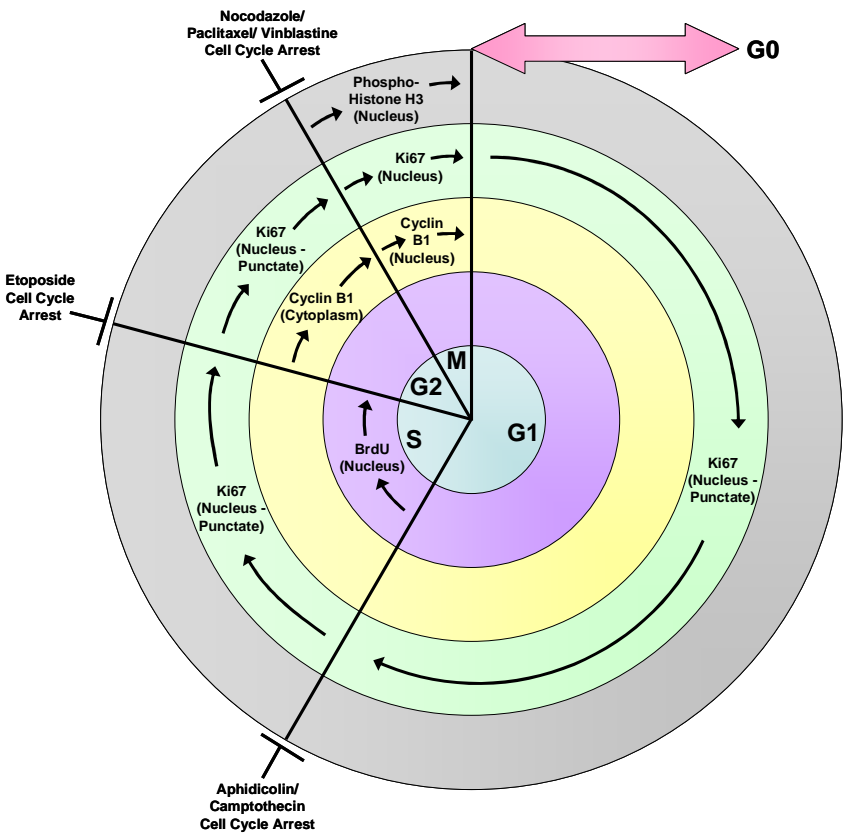

Figure 1. Eukaryotic cell cycle marker expression and effects of cell cycle phase blocking agents.
Histone H3 phosphorylation plays an important regulatory role in mitosis, transcriptional activation and neoplastic cell transformation [3, 4]. Several kinases, including MAP and Aurora kinases, have been reported to phosphorylate histone H3 at serine 10 following mitogenic stimulation or stress [4, 5]. Since mitosis is accompanied by phosphorylation of histone H3 on serine 10, the presence of phosphorylated histone H3^(Ser10) indicates that a cell is mitotic [4]. Upon exit from mitosis, a global dephosphorylation of histone H3 takes place. These phosphorylation and dephosphorylation events are well characterized and accordingly, phospho-histone H3 nuclear expression is widely used as a measure of mitotic index (the percentage of cells in M phase) in flow cytometry and HCS applications [5-9] (see Figure 1).
The superior Millipore reagents provided with this kit enable the user to reproducibly generate images with a high signal-to-background ratio, greatly facilitating HCS. In addition, working solutions of the primary and secondary antibodies are stable for at least 24 hours at room temperature (Figure 1), a great benefit for large-scale screening applications. The straightforward sample preparation and processing protocol takes less than 2.5 hrs after fixation.
Reagents are provided for 5 x 96-well microplates – *i.e.*, sufficient to perform 480 separate experiments. The kit includes a primary antibody for phospho-histone H3^(Ser10), a Cy3-conjugated secondary antibody, Hoechst HCS Nuclear Stain, HCS Fixation Solution, HCS Immunofluorescence Buffer, HCS Wash Buffer, and Plate Sealers. Two control compounds, the chemotherapeutic drugs vinblastine sulfate and etoposide, along with DMSO for Compound Serial Dilution and Compound Dilution Buffer, are also included in the kit, sufficient for duplicate 12-point dose response samples per plate (see Assay Procedure). Vinblastine sulfate, a microtubule inhibitor, and etoposide, a DNA topoisomerase II inhibitor, have both been demonstrated to induce mitotic block [10, 11], at G2/M phase and S/G2 phase, respectively. G2/M phase block causes an accumulation of phospho-histone H3^(Ser 10) expressing cells, while S/G2 phase block diminishes the proportion of cells reaching M phase (see Figure 1).
Note: Staining time is ~2.5 hours post-fixation. Do not allow wells to dry out between staining steps. Aspiration and dispensation of reagents should be conducted at low flow rates to diminish any cell loss due to fluid shear. All recommended 'per well' volumes refer to a single well of a 96-well microplate. All recommended 'per 96-well plate' volumes include 25% excess for liquid handling volume loss. All staining steps are performed at room temperature (RT). All buffers and antibody solutions are stable for at least 24 hours at RT if long-duration automated handling is required (see Figure 1).
4. At end of culture period, pre-warm HCS Fixation Solution (2X) to room temperature (RT) or 37°C if desired (12 mL/96-well plate). In a chemical fume hood, add 100 µL/well directly to culture media and allow to fix for 30 min at RT. Remove fixative and dispose of in compliance with regulations for hazardous waste (see MSDS). If proceeding immediately to staining, rinse each well twice with 200 µL of HCS Immunofluorescence Buffer. Alternatively, if plates are to be stained at a later time, rinse twice with 200 µL of Wash Buffer, then leave second rinse volume in wells and store plates tightly sealed at 4°C until staining.